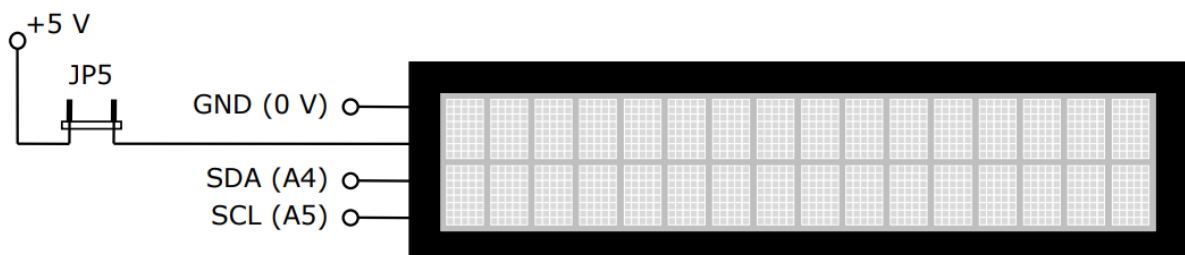

Figure 12: The connections of the LC display
At the top right of Figure 1 is the LC display (LCD) for displaying text or numerical values (arrow (18) in Figure 1). The LCD has two rows; each row can display 16 characters. Its circuitry is shown in Figure 12.